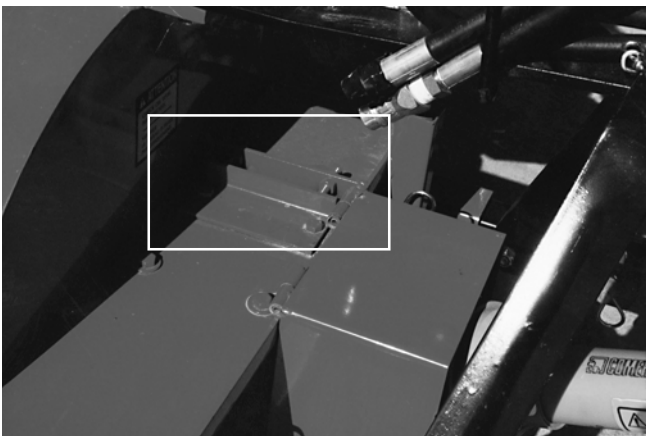

Figure 23
- 8) Check impeller adjustment. The tip of the blades should be approximately 1/8" to 3/16" from the discharge wall of the drum. If necessary, adjust with the take-up screws provided (Fig. 23).